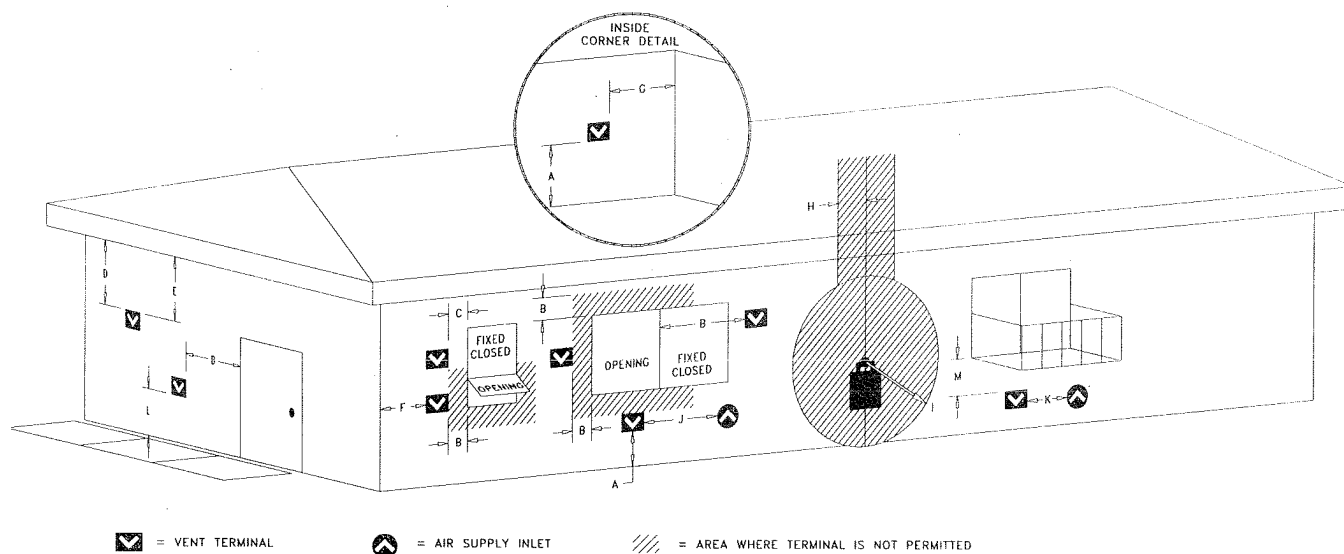

Figure 4: Exterior Vent Locations
2. Locate position where vent pipe will pass through any ceilings and will penetrate the outside wall. Since vent pipe sections "overlap" we suggest preassembling and measuring the total vent pipe run so you can more accurately locate the point where the vent pipe will penetrate the outside wall (See Figure 4: Exterior Vent Locations, pg. 10). Be sure all vent components are properly twist locked and leak-proof. Be sure 2000° sealant is used in the inner pipe joints of all adjustable pipe sections.